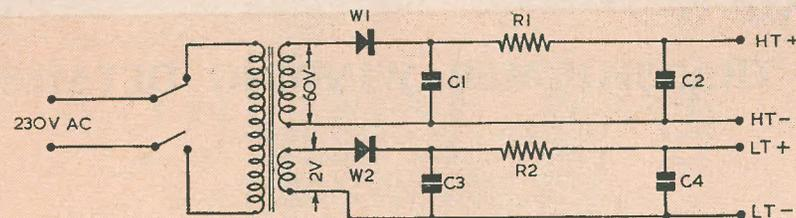
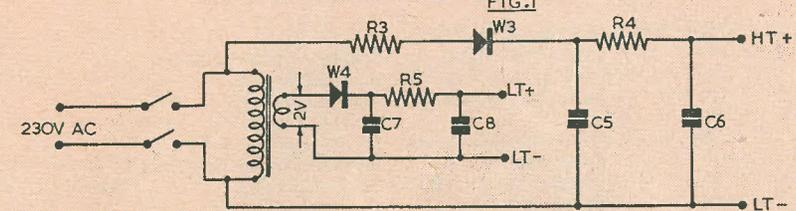
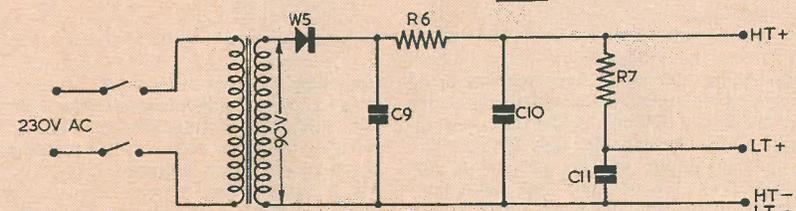
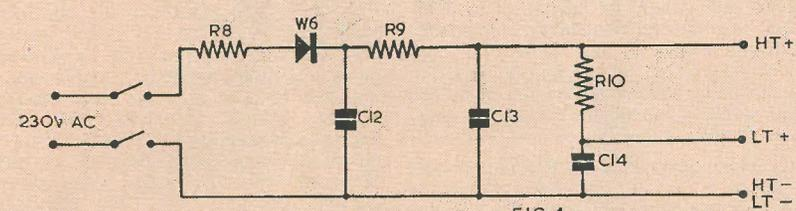

FIG. 1
FIG. 2
FIG. 3
FIG. 4
The first circuit shown in Fig. 1 uses a transformer with two separate windings for the HT and LT supplies. Fig. 2 shows a circuit using a transformer for the heater supply only, the required drop of voltage being obtained by means of resistance R₃. These two circuits are suitable for sets operating with heater voltages of 1.4V. With sets having an LT supply of 7.5V it is, in general, more economical to bleed the HT supply. The circuits for such sets corresponding to those of Figs. 1 and 2 are shown in Figs. 3 and 4. It will be seen that the circuits of Figs. 1 and 3 use a trans-
former giving a complete electrical isolation of the set from the mains. The use of a transformer is better suited for tap changing, and has the advantage over a dropping resistor in that it dissipates only a negligible amount of power. It allows of a construction uncramped by the necessity of keeping hot components (resistors R₈ and R₁₀ in Fig. 4) away from other parts and providing adequate ventilation. The disadvantages of a transformer are its higher cost, size and weight. It should be noted that in Figs. 3 and 4 the LT and HT supplies have one common lead. Care should therefore be taken to connect the positive LT lead to the correct output terminal of the power pack. If it is found that the valves are not glowing, the LT leads from the set should merely be reversed.
To determine the best values of components, connect equivalent HT and LT resistances of the set across the corresponding output terminals of the chosen circuit. The smoothing and dropping resistors (R₃, R₄ and R₅ in Fig. 2) can then be adjusted to give the rated voltages. The equivalent HT and LT resistances of the set can be obtained by dividing the two voltages by the corresponding currents taken. These currents can be obtained from the valve data, or measured directly by connecting the set to the battery. It can, however, be taken as a
Typical Components Values for Fig. 1
Typical Component Values for Fig. 2
Typical Components for Fig. 3
Typical Components for Fig. 4
- FIG. 1 Output 60V at 15mA and 2V at 250mA.
general guide that a battery set takes an HT current of approximately 10 mA and a heater current of 250 mA in the case of 1.4V LT sets and 50 mA in the case of 7.5V LT sets. For example, in the case of a 90V HT and 1.4V LT set the two equivalent resistances are 9000 ohms (1 watt) and 6 ohms ($\frac{1}{2}$ watt). In this procedure, considerable care should be taken not to overrun the rectifiers and electrolytic condensers. Thus if condensers C1 and C2 in Fig. 1 are rated at 100V, the voltage across either of them must not exceed this value. Also the voltage across C1 must not exceed the rated rectifier output.
The power pack built by the author was that shown in Fig. 1, and the components quoted are those actually used. That circuit was chosen in preference to others due to the fact that the power pack was built for a regular traveller and had to be suitable for operation on 110V as well as 230V AC. A transformer supplying both HT and LT with a simple tap changer was considered to be a much simpler way of changing the operating voltage than a system of resistors with a complicated switching arrangement, especially as a heater transformer had in any case to be provided. The physical arrangement of components is shown in Fig. 5. Only overall dimensions are given as the particular detail arrangement will depend in each case on the components available.
On the right-hand side of Fig. 1 you will recognise a shape which has appeared many times before in this series. In almost any radio textbook it will crop up, or be referred to as the 'sine wave,' the author assuming that his readers know of what he is speaking.
The line AB in Fig. 1 is called a vector, and its length represents to some scale a current or voltage of, let's say, one volt. The base line on the right-hand side is cali-
will be reversed—from, say, positive to negative. Now, if the voltage from this coil were plotted vertically against angular movement on a graph, the resultant curve would be the same as the one in Fig. 1.
It is not merely a question of petty exactitude which gives this particular waveform such importance in scientific engineering. The reason is that the sine wave is the only waveform containing only one frequency. If our elementary coil of wire were rotated at 50 revs/sec, the frequency of the alternating current output would be 50 c/s because one complete wave would be produced by every revolution. This explains the other markings on the base line of Fig. 1. The degrees of rotation have been replaced by the time the vector has taken to rotate to any particular point, assuming that the rotational speed of the vector is constant. Now it can be shown that any waveform which departs from sine wave or sinusoidal shape contains harmonics. These are frequencies which are multiples of the main or fundamental frequency. For example, middle C in the musical scale has a frequency of 256 c/s and its second harmonic is $2 \times 256 = 512$ c/s (an octave above middle C), and its third